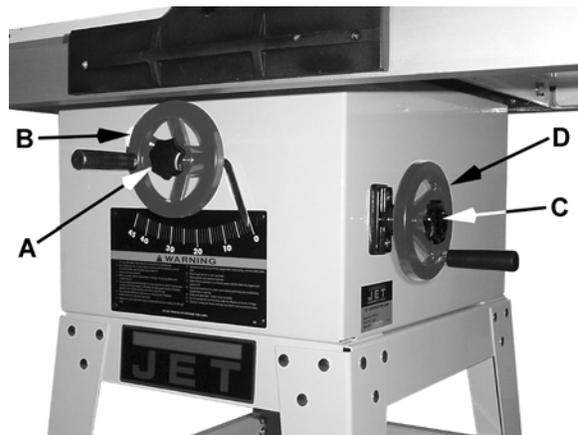

Figure 29
To *raise or lower* the saw blade, loosen the lock knob (A, Fig. 29) and turn the handwheel (B, Fig. 29) until the desired height is reached. Tighten the lock knob. The blade should be adjusted between 1/8" to 1/4" above the top surface of the material being cut.
To *tilt* the saw blade, loosen the lock knob (C, Fig. 29), turn the handwheel (D, Fig. 29) until the desired angle is obtained, then tighten the lock knob.
3. Set the blade at 90° to the table by turning the blade tilting handwheel counterclockwise (D, Fig. 29) as far as it will go. Do not force beyond stop.